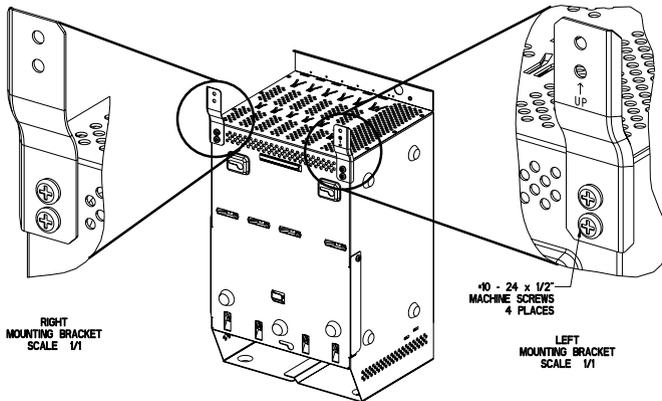

Figure 2-6. Fastening the left and right brackets on the carrier
3. Install the left and right mounting brackets on the rear of the carrier with the four #10 - 24 X 1/2" long machine screws supplied, as shown in Figure 2-6.